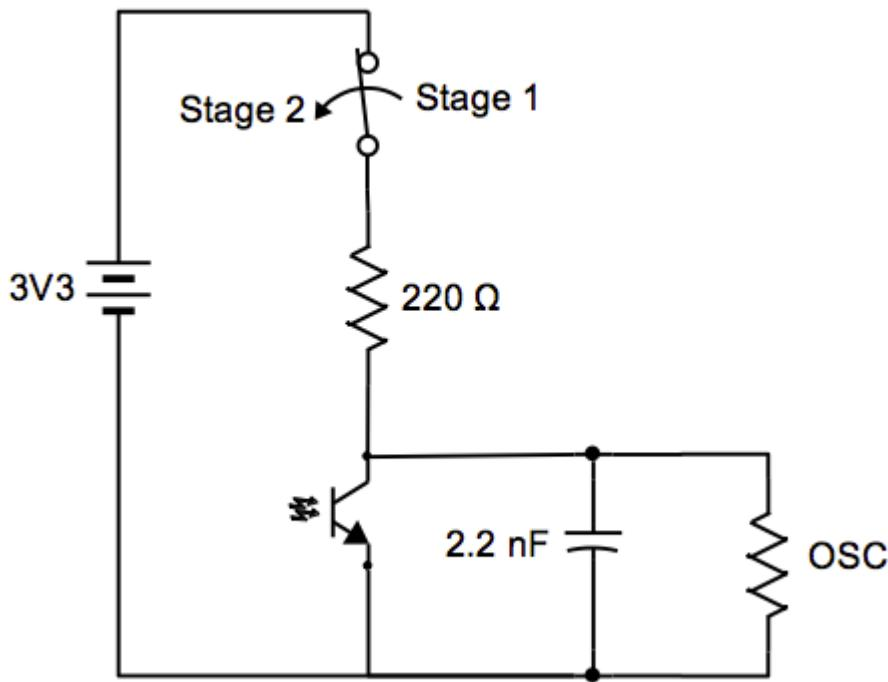

FIGURE 3-12: Phototransistor circuit (stage 1 and stage 2)
Step 1: Construct the circuit as shown in Figure 3-12. You'll be using an on-off-on SPDT toggle switch for this circuit. See Figure 15 below for its setup: